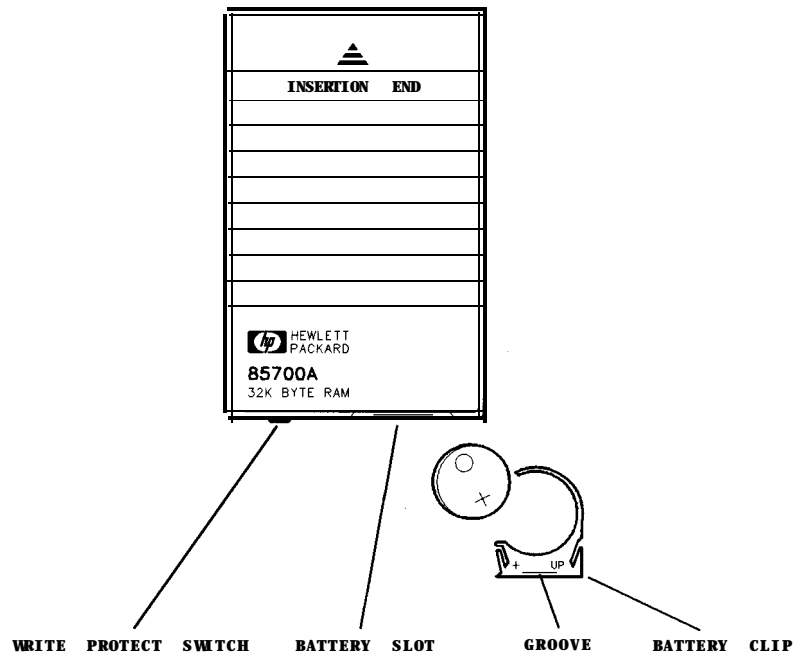

Figure 1-3. Memory Card Battery Replacement
1. Locate the groove along the edge of the battery clip. See Figure 1-3.
4. Insert the battery clip into the memory card, holding the clip as oriented in Figure 1-3. (Face the "open" edge of the clip toward the write-protect switch on the memory card.)